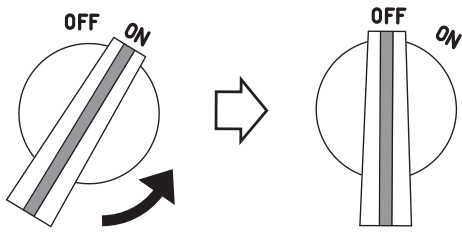

Figure 23. Engine ON/OFF Switch (OFF Position)
2. Place the engine **ON/OFF** switch (Figure 23) in the **OFF** position.